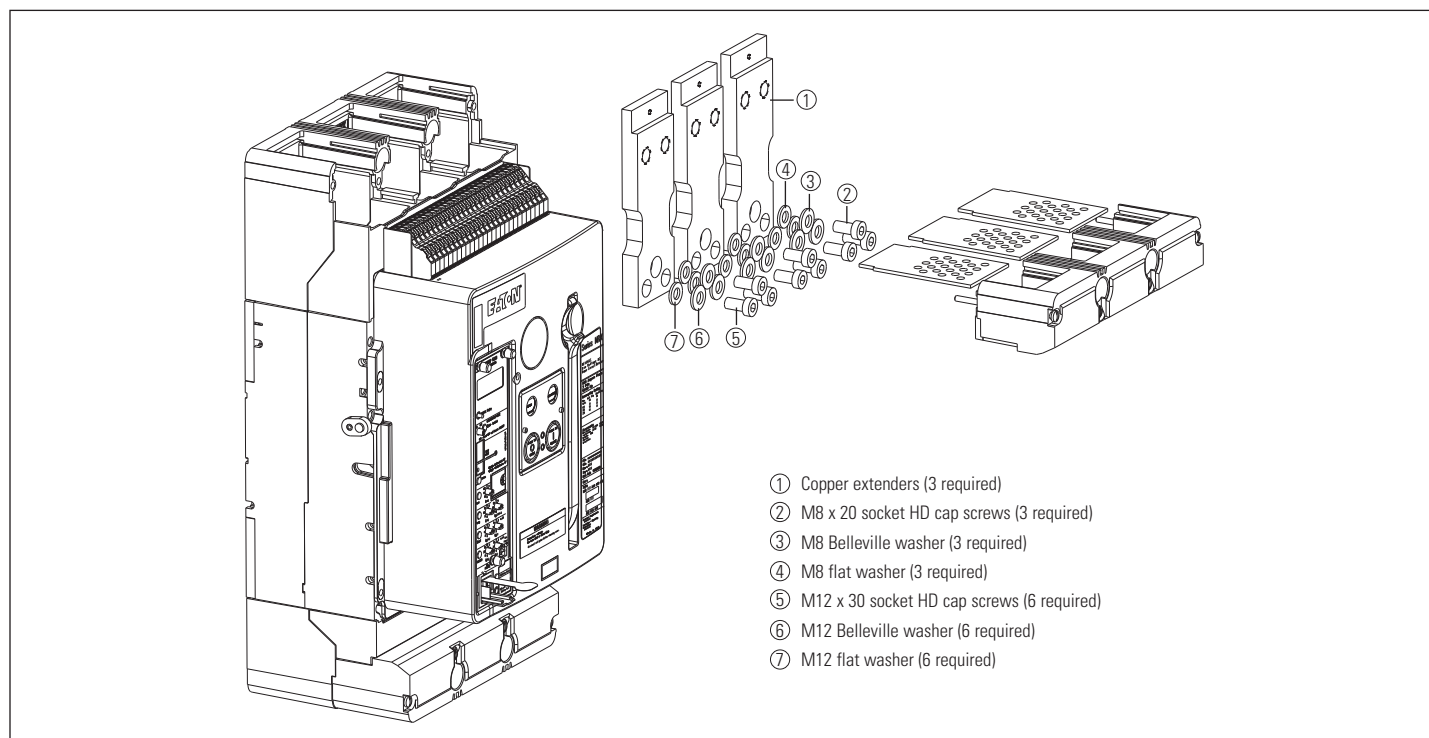

Figure 8. Assembly view (refer to only the line side for this kit)
Bolt the bus conductor extensions to the breaker bus adapters using the provided hardware. Refer to **Figure 8**.
Start the assembly per **Figure 8**.
5. Screw each of the M12 bolts into the tapped holes of the extenders (**5**) from **Figure 8**.